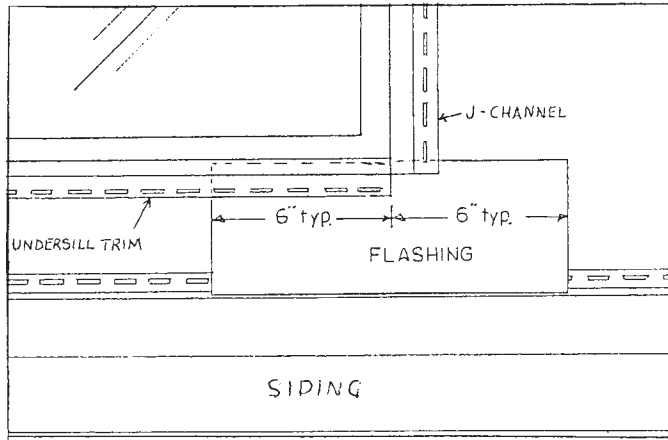

FIG. 14 Installation of Window Undersill Trim
9.3.5 At the bottom of the window, snugly install between the side J-channels and against the underside of the sill, a piece of undersill trim cut to the exact width of the window. Use the proper thickness of furring behind it to keep the pitch of the panel consistent. Flash or caulk the J-channel –undersill intersections to prevent water infiltration. (See Fig. 14.)